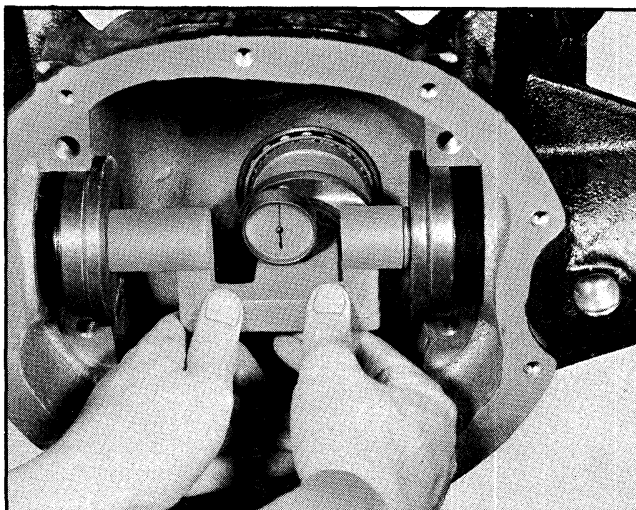

Fig. 4-37 Checking Pinion Depth
8. Make certain differential bearing support bores are free of burrs. Install indicator gauge in carrier so that small diameter outer portion of discs rest in differential bearing pedestal support bores. Spring loaded center of gauge must be located in centering hole of gauge plate and contact button of dial indicator must be positioned to bear against outer edge of gauge plate top surfaces. See Fig. 4-37.